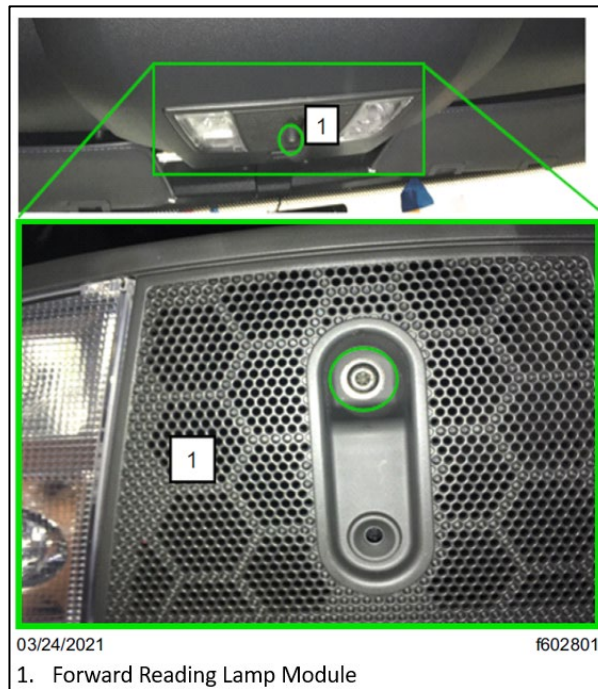

Fig. 14, Forward Reading Lamp Module
- 14.9. Position the reading lamp module on the center overhead storage unit, then install the fastener that attaches it to the center overhead storage bin. See Fig. 14. Tighten the fastener 5 to 7 lbf.ft (6 to 9 N.m).